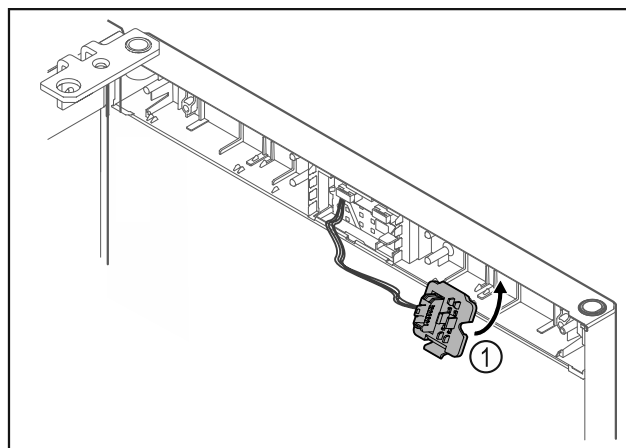

Fig. 22
- Snap in the plug holder Fig. 22 (1) on the opposite side.